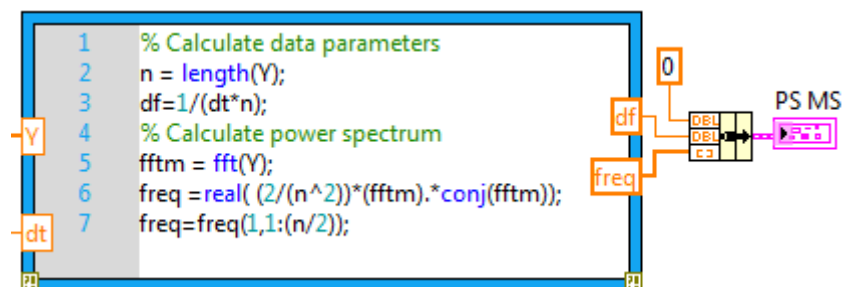

Figure 46. The Bundle Function combines functions that are different data types.
26. Add a zero constant to the block diagram by right clicking on the block diagram, selecting **Programming»Numeric»DBL Numeric Constant** and place it in the same position as figure 46.
27. Wire the Bundle Function as seen in Figure 46.